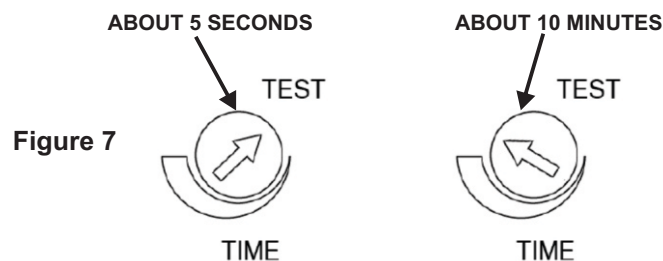

Figure 7
(2) TIME ADJUSTMENT
- Turn the time control knob clockwise to increase (up to about 10 minutes) how long the floodlight stays on or anti-clockwise to decrease (down to about 5 seconds) the time delay (Figure 7).